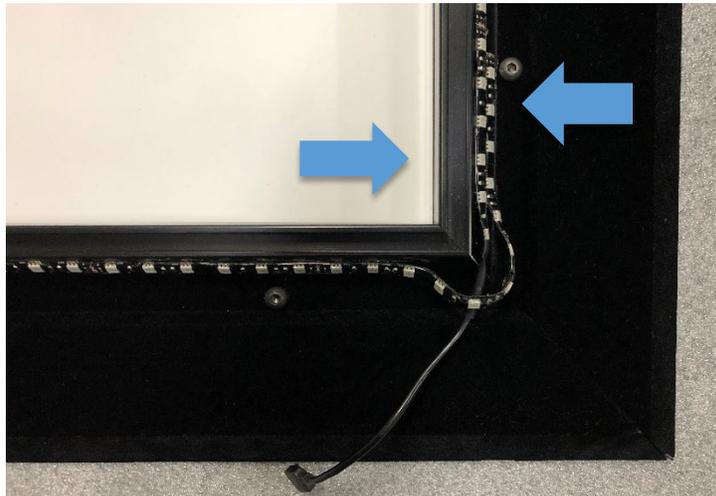

Figure 1: Start and end of LED strip attachment
1. Start at either bottom corner of the back of the Balón frame, depending on which side you would like your power supply to run on (see Figure 1).